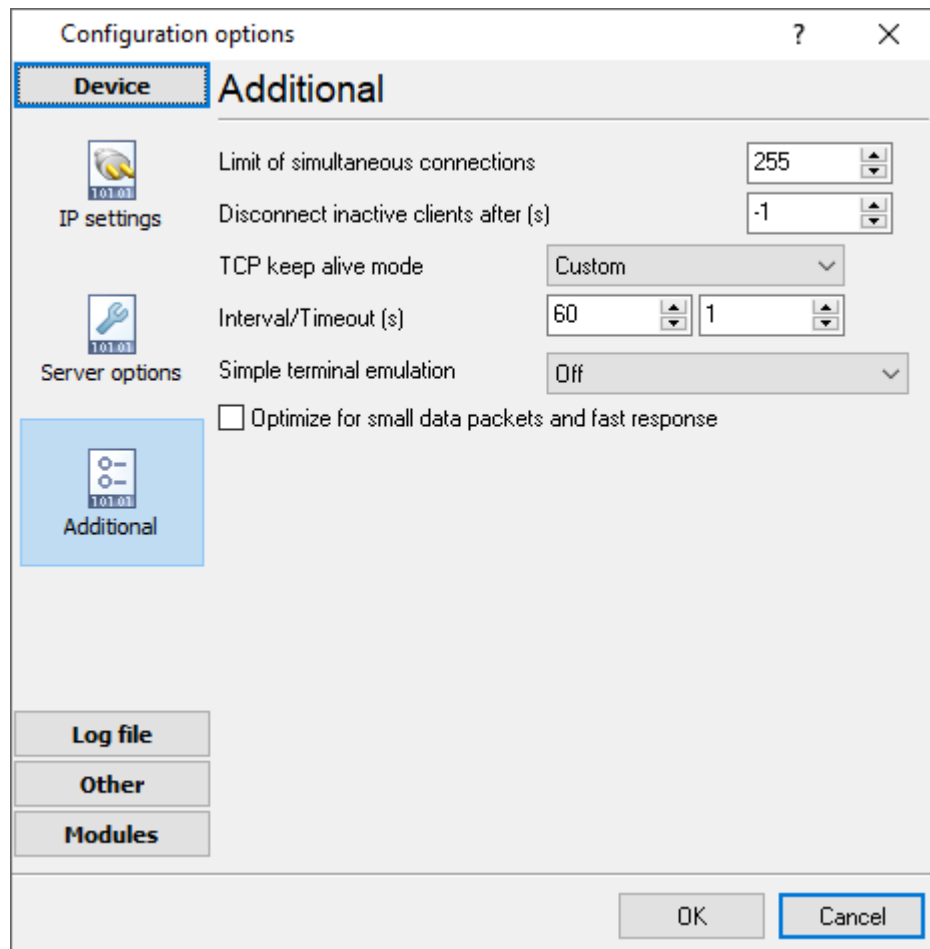
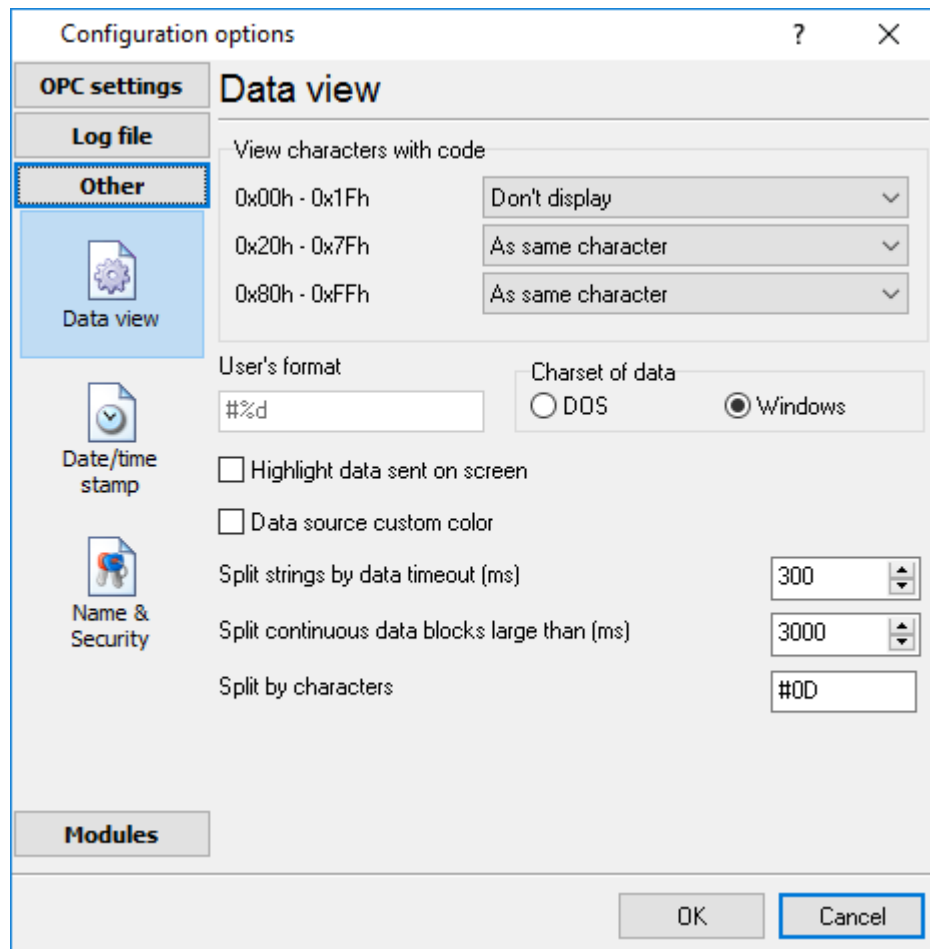

Fig. 11. Additional parameters
Fig. 12. Data view
The "Additional" tab contains additional settings of a TCP/IP or UDP connection (fig. 11).
Our software supports three modes of keep-alive (fig. 11):
The data in the main window (fig. 11) can be displayed in two modes (fig. 12):
8. **Split by characters** - this option allows to visually splitting continuous data flow in the program window using the specified symbols. For example (fig. 12), the program will use a character with the 0Ah hexadecimal code that is equal to the "LF" ASCII code.